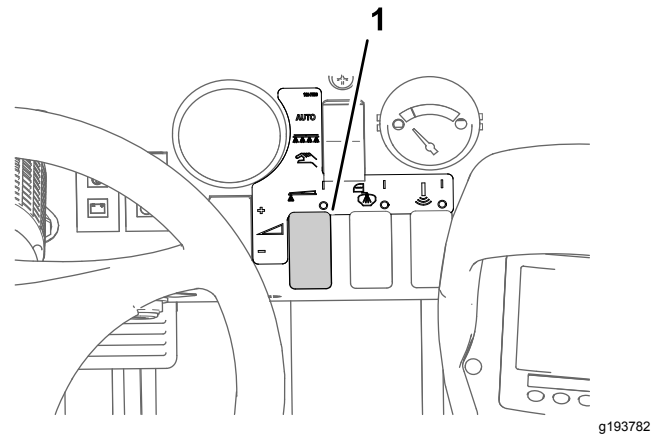

Figure 39
8. Use the application-rate switch to achieve the desired spray pressure as indicated in the nozzle-selection guide provided with the sprayer (Figure 39).